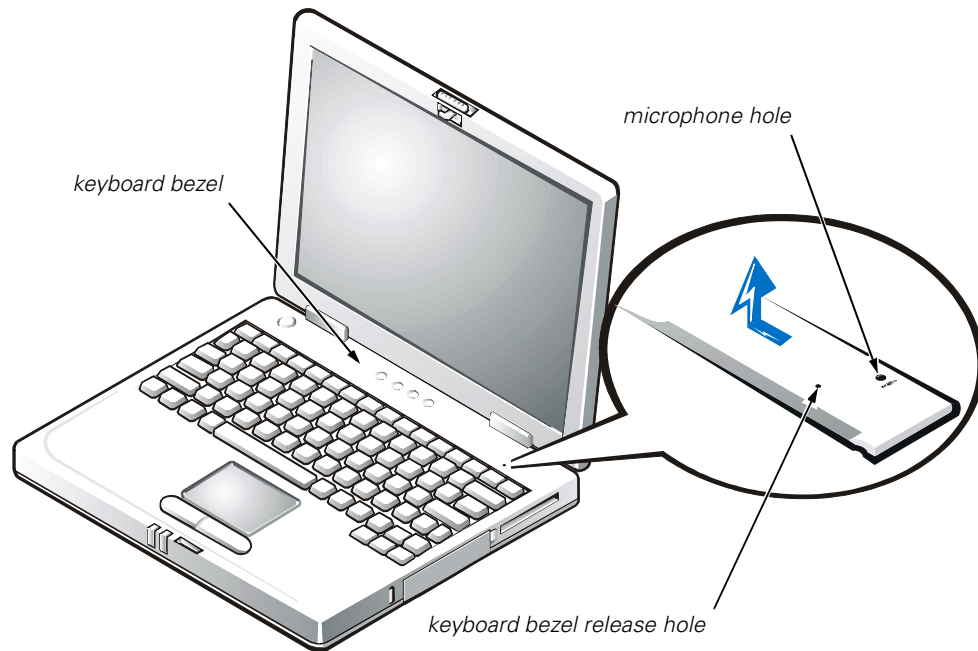

Figure 7. Keyboard Bezel Removal
NOTICE: To avoid damaging the microphone, do not put any objects into the microphone hole (see Figure 7).
1. Place the point of a paper clip or a tool of similar size in the keyboard bezel hole and carefully push down (see Figure 7).